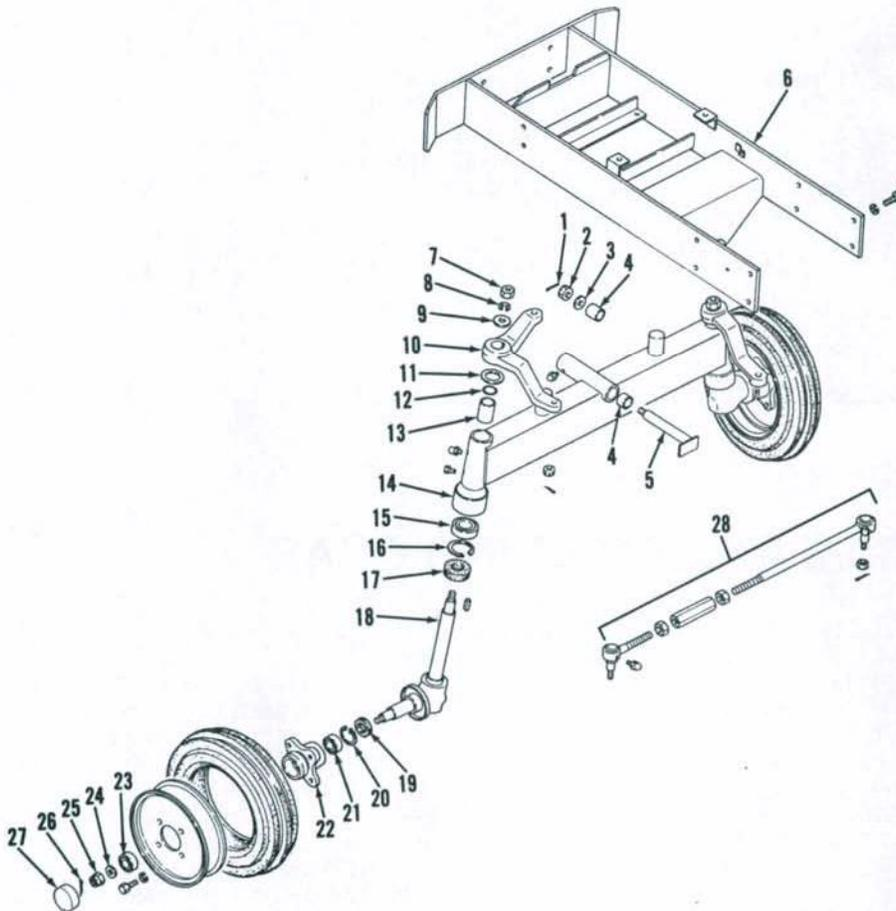
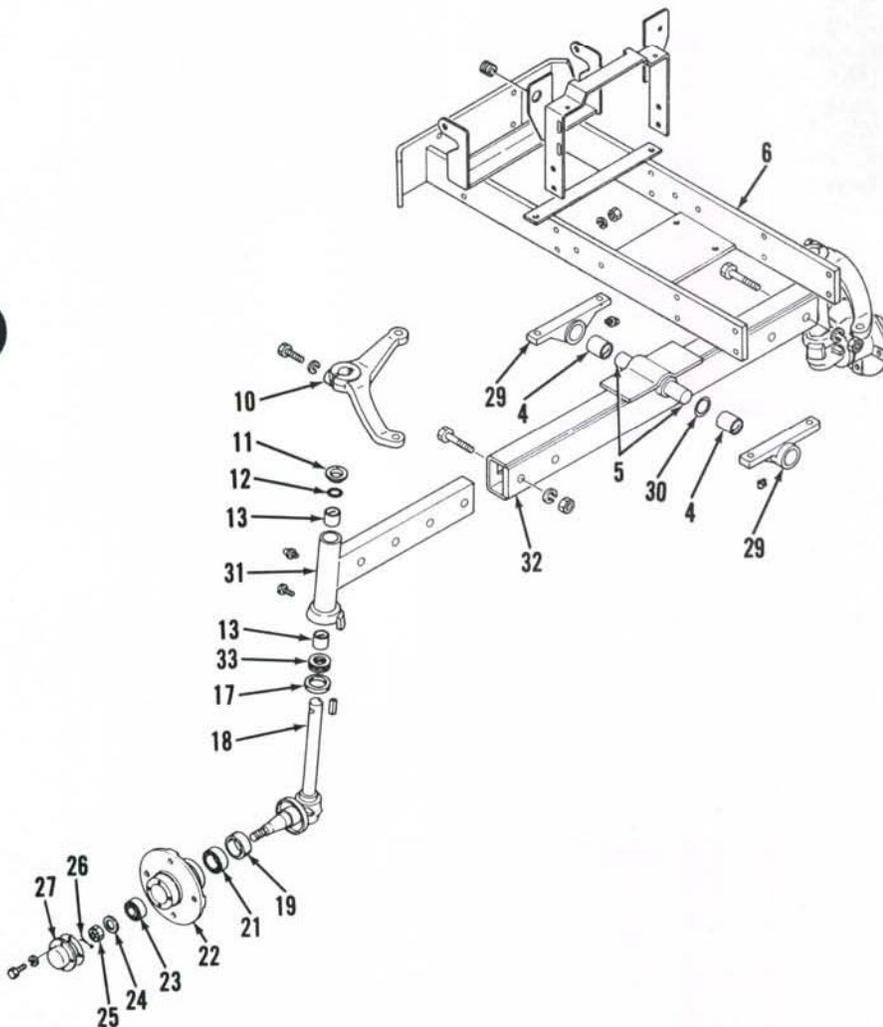
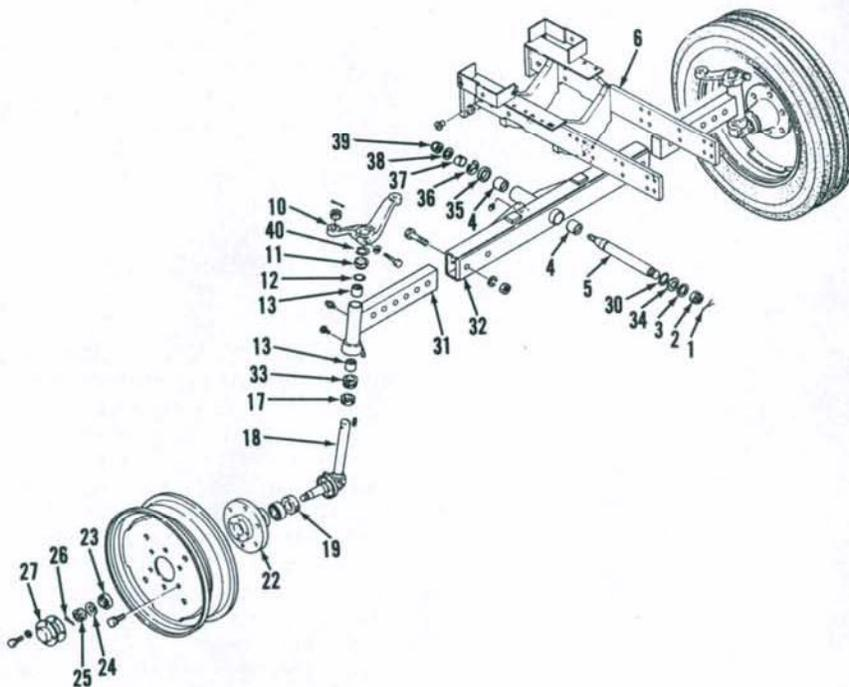

Fig. 1—Exploded view of non-adjustable front axle used on YM155 models. Axle used on YM135 is similar.
Fig. 2A—Exploded view of adjustable axle available for YM195 and YM240 models. Except for adjustable width feature, heavy duty non-adjustable axle is similar.
Fig. 3—Exploded view of adjustable axle used on YM330 models.
1. **ADJUSTMENT.** Refer to appropriate Fig. 1, 2, 2A or 3 for exploded view of fixed or adjustable tread non-driving axle. Toe-in should be 4-8 mm (5/32-5/16 in.) for all models. Length of drag link should be adjusted to provide equally sharp turns in both directions.
Front axle should not have excessive front to rear clearance at pivot shaft (5). Excessive clearance can be removed from YM195 and YM240 models by relocating brackets (29—Fig. 2) closer together. Be sure all attaching screws are retightened after adjustment is complete. On all other models, adjust axle play at pivot by tightening the castle nut (2—Fig. 1 or 3) on pivot shaft. Be sure to
2. **REMOVE AND REINSTALL.** Support front of tractor and disconnect drag link from steering arm. On YM135 and YM155 models, remove cotter pin and castle nut (2—Fig. 1) from axle pivot shaft, support axle with jack, then remove washer (3) and pivot shaft (5). On YM195 and YM240 models, support axle with jack, unbolt pivot brackets (29—Fig. 2 or 2A) from frame, then
lower axle. On YM330 models, support axle with jack, remove cotter pin from castle nut at rear of pivot shaft, then loosen castle nut (2—Fig. 3). Remove self locking nut (39), washer (38), sleeve (37) and snap ring (36), then withdraw the pivot shaft.
When assembling YM135 model, castle nut (2—Fig. 1) should be toward rear. On YM155 model, castle nut is toward front. Bushings (4) are 25 mm (0.984 in.) long for YM135 models; 24 mm (0.945 in.) long for YM155 models. Tighten castle nut (2) on YM135 and YM155 models enough to remove all axle play; however, axle should move smoothly and freely on pivot.
3. **OVERHAUL.** The steering spindle (18—Fig. 1, 2, 2A and 3) is equipped with renewable bushings (13) and some
models are equipped with bearings (15 and 33). Inside diameter of bushings (13) should be sufficient to provide correct clearance for the spindle. Adjust spindle end play by adding covers (11 - Fig. 1, 2 or 2A) or shims (40 - Fig. 3) as required.
Fig. 2—Exploded view of standard non-adjustable front axle used on some YM195 and YM240 models. Refer to Fig. 1 for wheel hub and bearings. Refer to Fig. 2A for optional adjustable axle and heavy duty axle.